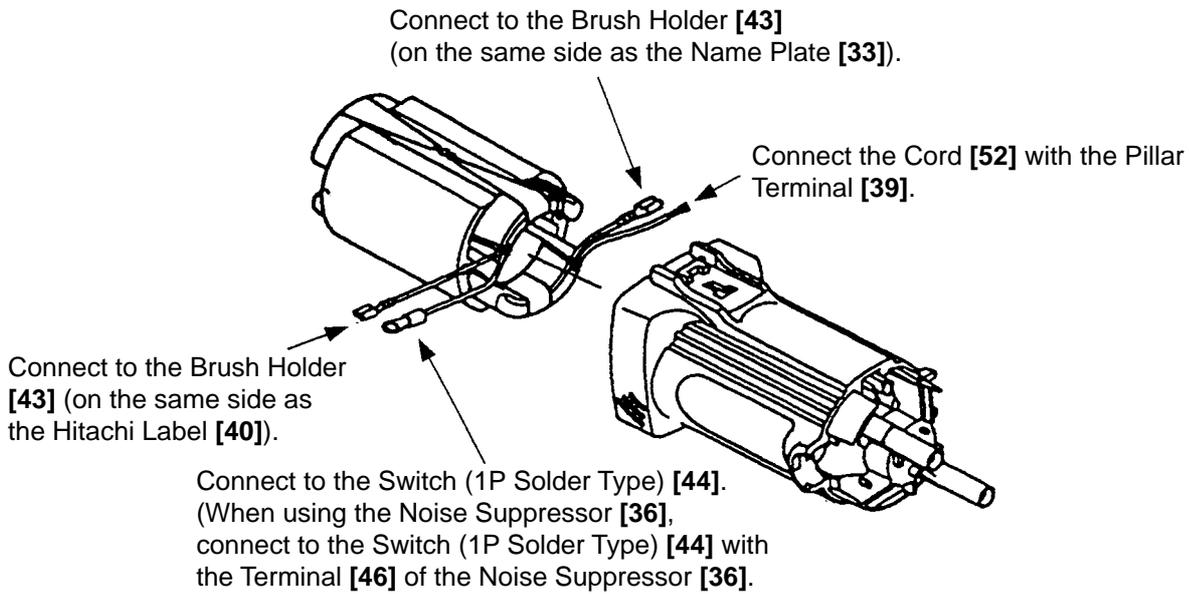

Fig. 8
(6) When installing the Stator [14] into the Housing Ass'y [32], insert it while taking care of the placement of the internal wires of the Stator [14] as indicated in Fig. 8. Connect the four internal wires of the Stator [14] with the parts indicated in Fig. 8.